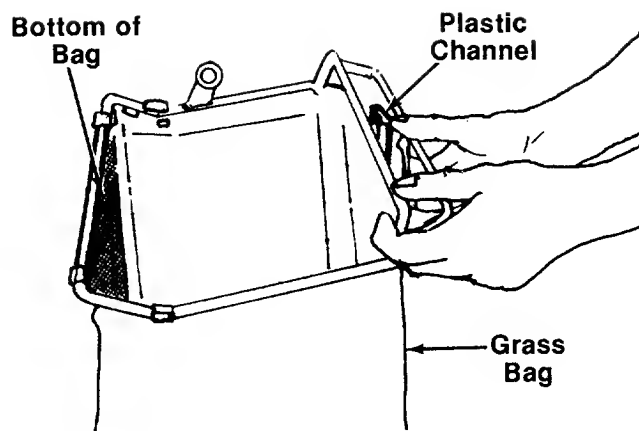

FIGURE 15.
4. Secure bag to frame by slipping plastic channels on bag over frame. See figure 15.